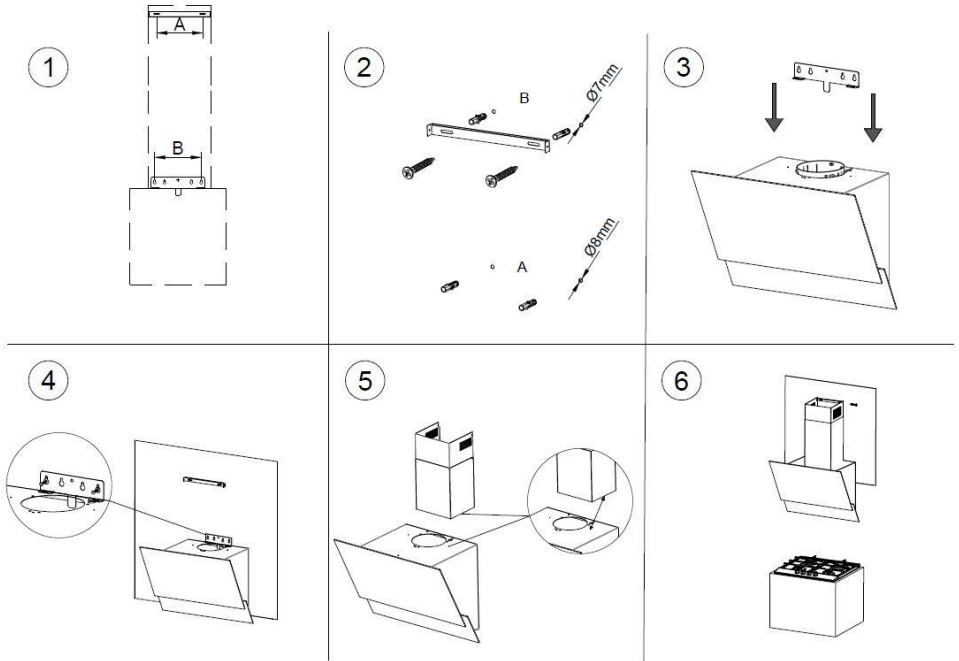

Figure 5
The installation of inclined cooker hood is in Figure 5. In step ①, A is 148 mm, B is 137 mm. ② Drill two holes for Ø8 dowels and drill another two holes for Ø7 dowels. Fix chimney